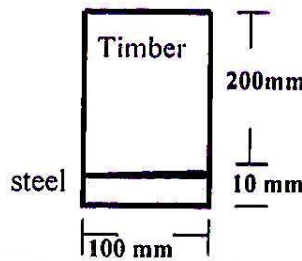

Fig. 8
- (b) A timber beam 100 mm wide and 200 mm deep is strengthened by a steel plate 100 mm wide and 10 mm thick as shown in Fig. 8. Calculate the moment of resistance of the beam if the safe stress in timber and steel are 10 MPa and 150 MPa respectively. Take  $E_{\text{steel}} = 20 E_{\text{Timber}}$ . [8]